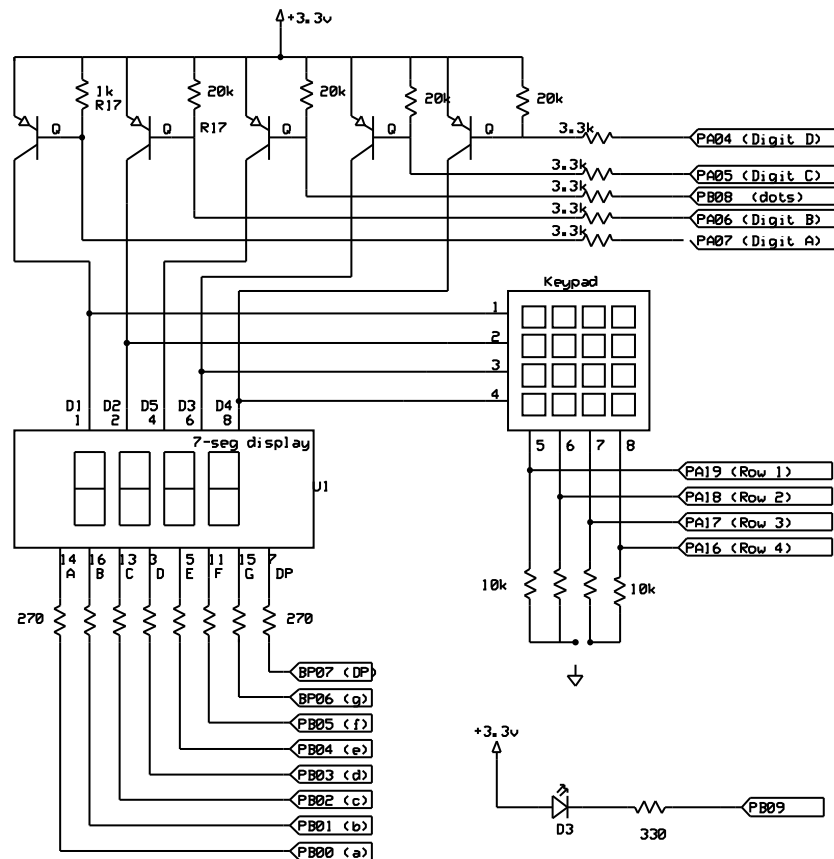

Figure 1.1
Students will develop a calculator using the keypad and 7-segment display as the input/output devices. As a minimum, the calculator should be able to add and subtract two integer numbers (with sign). The digit key “#” will represent the 'add' (+), “*” will represent subtraction (-), "A" as the equal (=) and, and "B" as backspace. Do not worry about consecutive add and subtract operation as well as over/underflow (more than 9999 or less than -9999) condition. Extra credit will be given to project with additional functions or features such as implementing leading zero blanking, multiple, divide, decimal point or floating point. Figure 1.1 shows the schematic of the keypad and 7-segment display circuit and their connections to the SAMD20 board.
- Once an input is read from the keypad, the input needs to be displayed onto the 7-segment display. Pins PB00 to PB06 are connected to A to G respectively with the decimal point (DP) connected to pin PB07. Digit 1 to Digit 4 are connected to pins PA04 to PA07 respectively. The three extra dots in the display are connected to a common anode. This common anode is connected to the 5th transistor.
- As shown in Figure 1-1, there is a discrete LED that is positioned to the left of the 7-segment display. This discrete LED can be used as the sign of the displayed number.